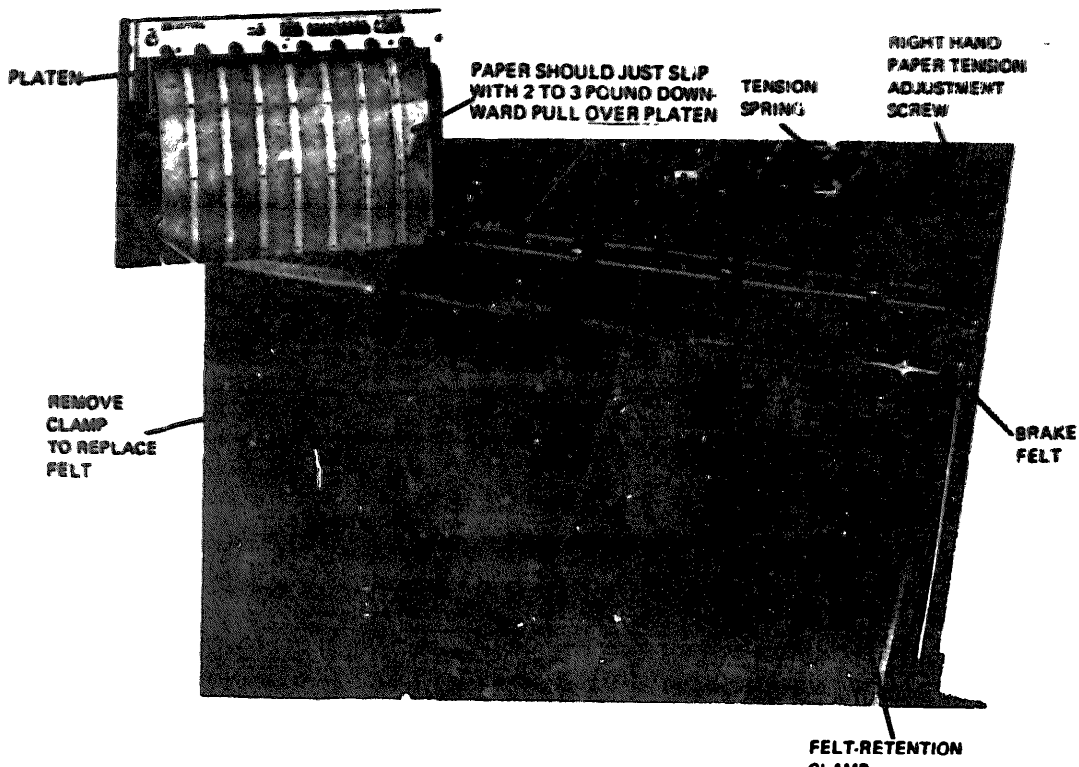

Figure 5-8. Paper Tension Adjustment
a. Disengage the paper from the drive roller as shown in Figure 5-8, then:
(1) Place your hand flat on the paper table and, pressing inward, try to slide the paper downward with the same hand. If the hand moves the paper without slipping, the tension is approximately correct. This test will usually be sufficient, since the tension is not critical.
(2) For a more accurate measurement, tape the exposed paper in a down-pointing V to prevent tearing, and pull the paper downward over the platen with a small spring scale.
b. If necessary, adjust the paper tension by evenly turning both adjustment screws (Figure 5-8) in to increase the tension, out to decrease it. When the proper adjustment is obtained, turn the left screw inward 1/4 to 1 additional turn.
(2) This adjustment should be straightforward, and not difficult or "touchy". If tension is hard to adjust, the felt may be compressed or worn, and thus need replacement. The felt (Part No. 07758-00160, designation A22MP8) may be removed by unfastening retaining clamp A22MP9, shown in Figure 5-8, and cleaning it and its adhesive from the brake bar. New felt need not have adhesive applied. Recheck the paper tension after installing new felt.